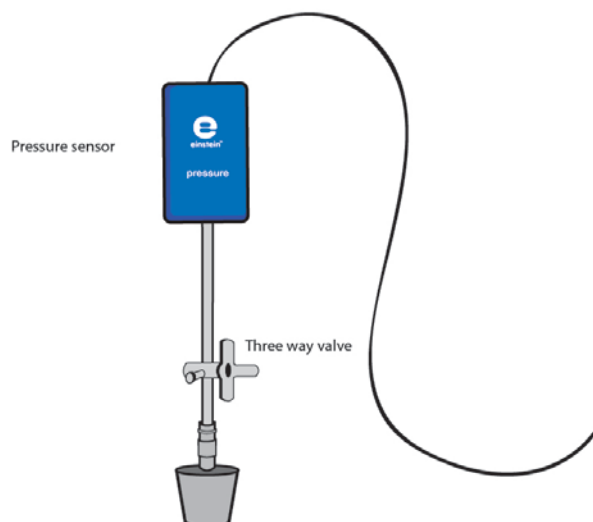

Figure 2
- e. Insert a syringe extender into the stopper (Figure 2)